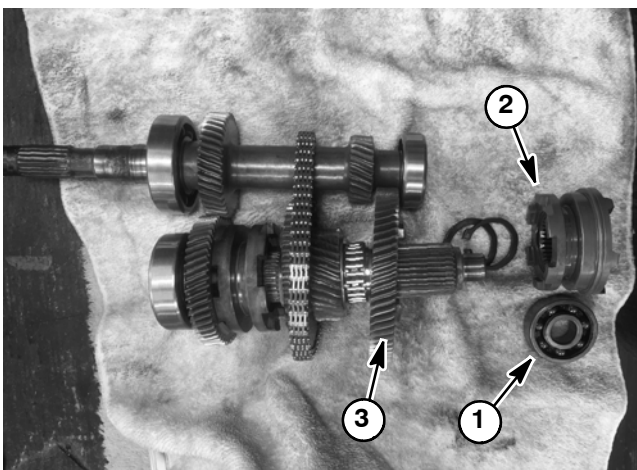

Figure 64
2. If any of the transmission shafts were disassembled, install removed components onto the shafts in the reverse order of disassembly. During assembly, make sure that retaining rings are installed fully into the grooves of the shafts. Also, if the reverse and input shafts were separated, make sure that the silent chain is installed on these shafts before the 67 tooth gear, park shift dog and bearing are installed on the reverse shaft (Fig. 64).